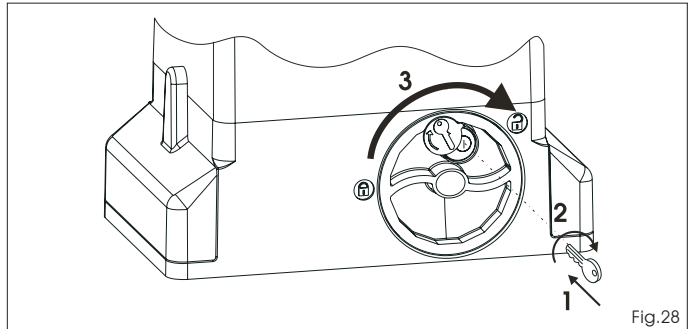

Fig.28
- 1) Insert the key provided and turn it clockwise as shown in Fig. 28 ref. 1 and 2.
- 2) Turn the release system clockwise, until the mechanical stop is reached, Fig. 28 ref. 3.